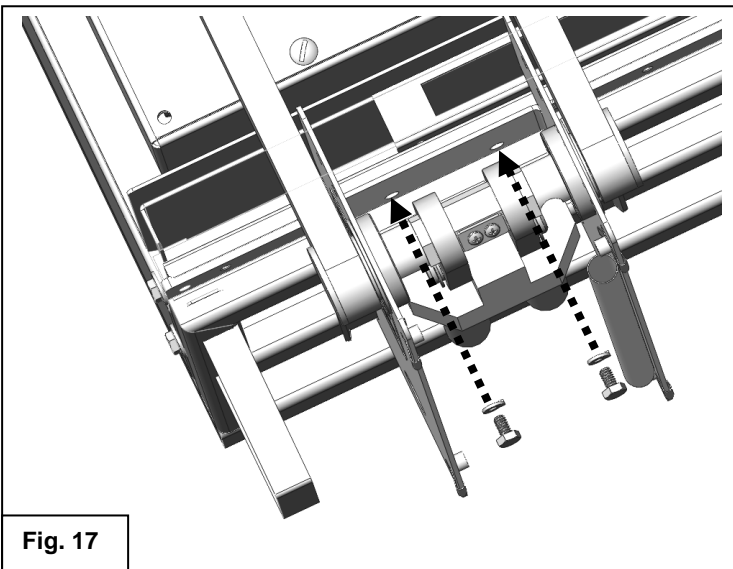

Fig. 17
19. Set unit to lowered position as shown in Fig C on page 6. Insert and tighten the top mounting bracket screws and washers. Fig.17.